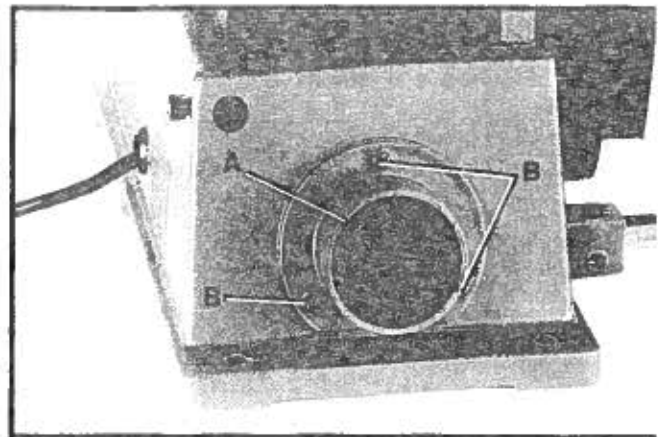

Fig. 13
1. Fasten dust spout (A) Fig. 13, to sander base using the three 3/8" (10mm) long pan head screws (B), and flat washers supplied.